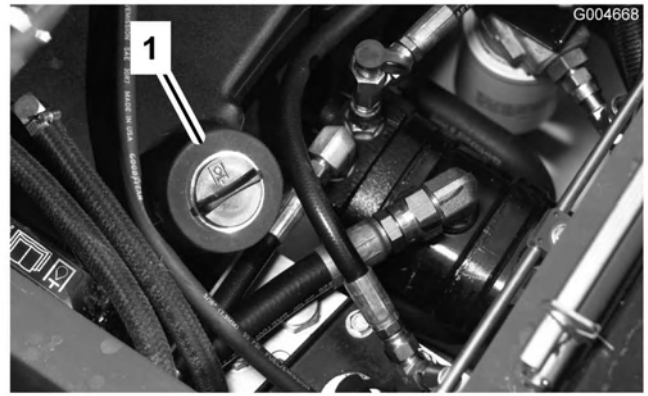

Figure 9
3. Clean the area around the filler neck and cap of the hydraulic tank (Figure 9). Remove the cap from the filler neck.